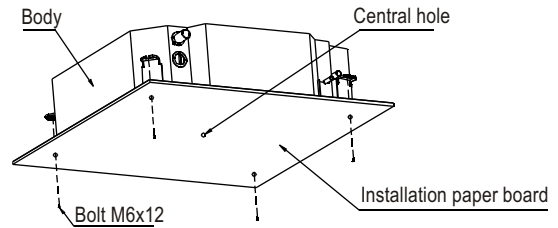

Fig.1-6
- 2 After installing the body, please fasten the installation paper board onto the air conditioner with bolts (M6X12) to determine in advance the sizes and positions of the hole opening on ceiling. (Refer to Fig.1-6)